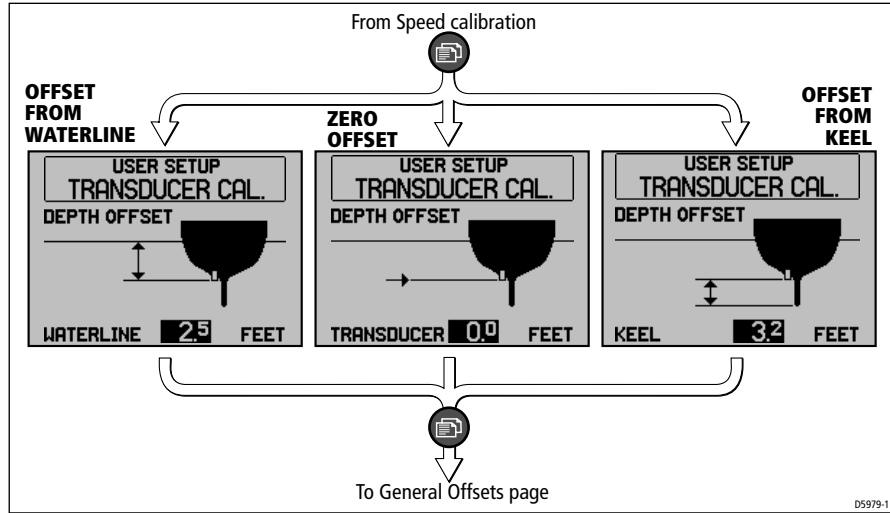

Figure 2-26: DEPTH OFFSET screens
1. In the Transducer Calibration chapter, use the  button to move to the DEPTH OFFSET adjust page (see *Figure 2-26*). The screen displayed depends on what type of depth offset is currently set, either WATERLINE, TRANSDUCER (zero offset) or KEEL.